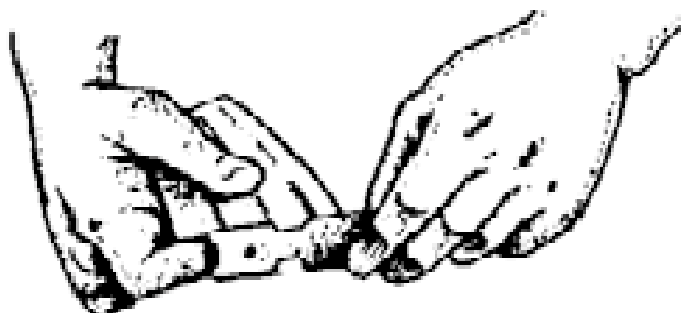

Figure E-41. Removing the base of the magazine.
b. Remove the base (figure E-41).